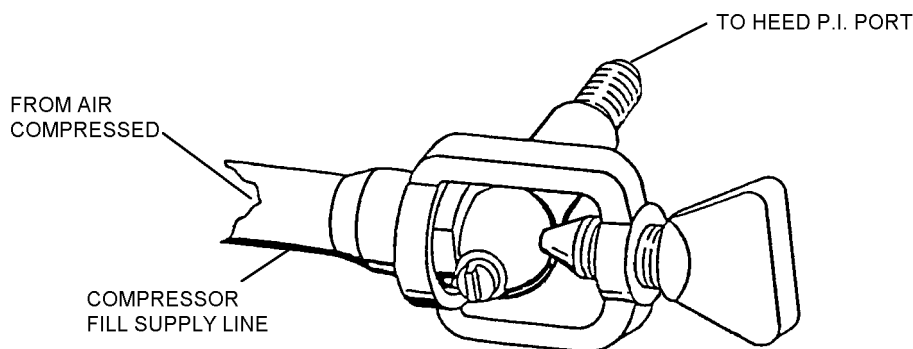

Figure 15-14. HEED-Compressor Refill Adapter
4. Install the refill adapter (figure 15-14) on the compressor fill (supply) line.